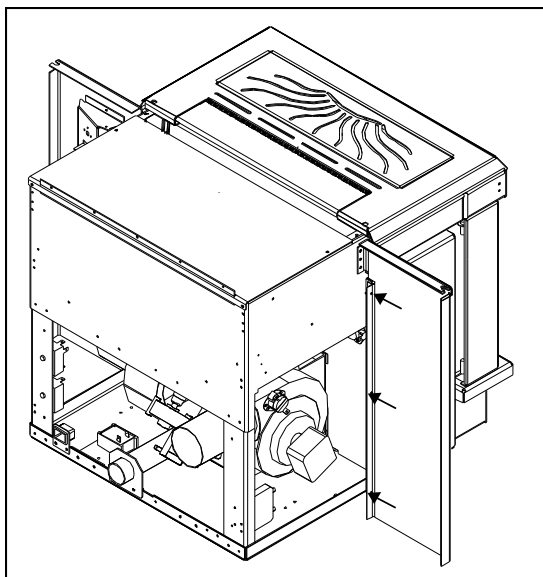

Figure 32: Panel placed on unit.
3. Using three (3) T-20 screws on each side attach the hinges on the side surround panels to the unit's side panels (refer to Figure 32).